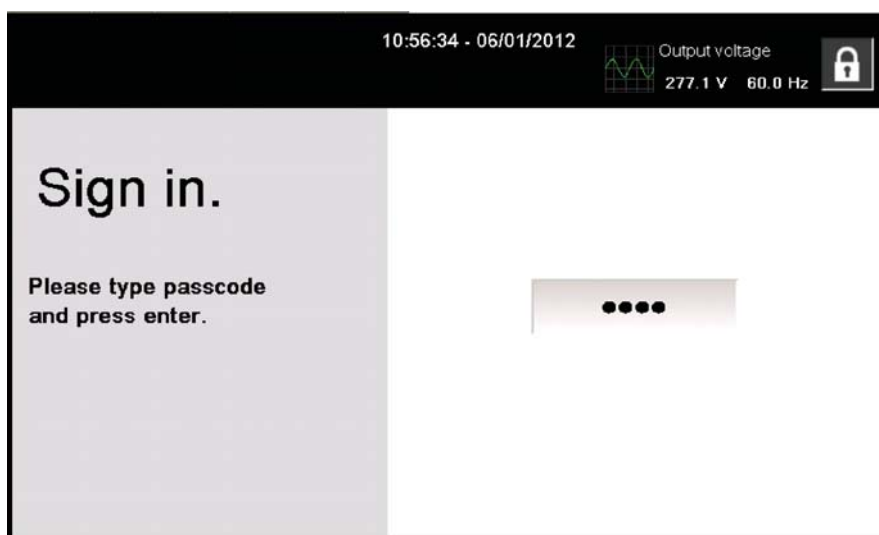

Figure 6-14. Sign In Password Screen
1. Tap the lock button in the upper right corner of the screen. The sign in screen is displayed (see Figure 6-14).